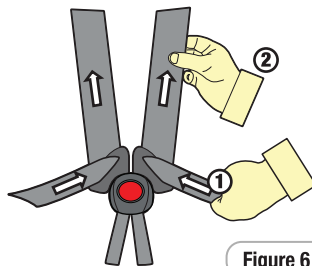
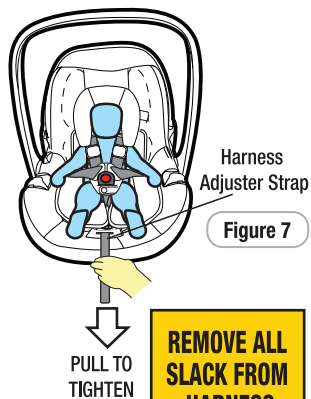

Figure 6
Figure 7
Step 9: Remove all of the slack for the harness lap straps by pulling shoulder straps (refer Figure 6), then pull the harness adjustment strap to adjust harness to a comfortable but firm fit (refer Figure 7).